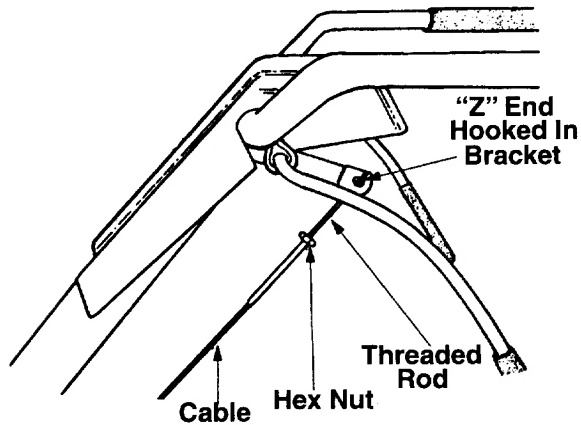

Figure 3. - Model 340
2. Unthread the rod from the rest of the cable. Hook the "Z" end of the rod into the bracket underneath the handle assembly from the right hand side. (See Figure 3)